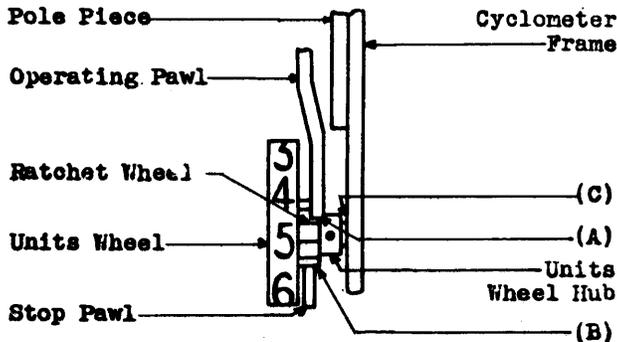

Fig. 3 - Position of Operating and Stop Pawls
(b) Fig. 3(A): With the register electrically operated and with the play in the operating pawl bearings taken up to the right, not more than 1/4 the width of the operating pawl shall extend beyond the right hand face of the ratchet wheel. This requirement shall be met on all teeth of the ratchet wheel. Gauge by eye.
(c) Fig. 3(A) and (B) — With the armature released slowly by hand and with the clearance between a tooth on the ratchet wheel and the stop pawl taken up, the tip of the operating pawl shall drop into its normal position in front of a tooth on the ratchet wheel. This requirement shall be met on every tooth of the ratchet wheel.
2.03 Stop Pawl Position: Fig. 3(B)
2.06 End Play — Fig. 3(C): There shall be a perceptible amount of end play between the units wheel hub and the frame. Gauge by feel.